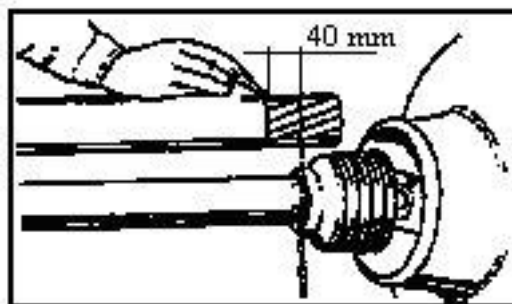

Fig. 17: Mark the piece that will be sawn off
3. In the shortest operational position mark the piece that will be sawn off on one half of the PTO shaft (see Fig. 17).